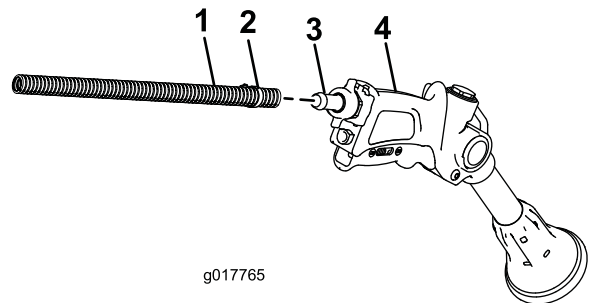

Figure 20
2. Connect the free end of the long hose to the fitting on the spray gun (Figure 20).